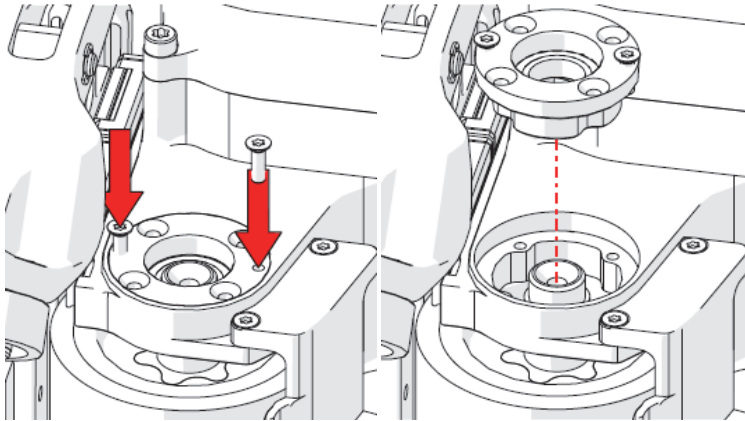

Figure 2-13 Screw-jack the bearing housing loose
14. Use two of the bearing housing screws to jack the bearing housing loose and remove it (see Figure 2-13 on page 92).